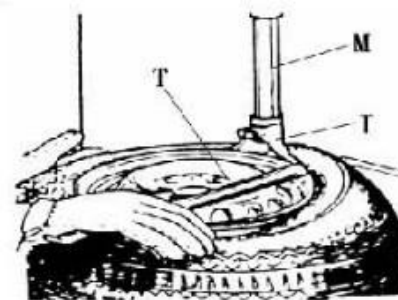

Fig 6
Lower the Vertical Arm (M) until the Mounting head/demounting head (I) rests next to the edge of the rim, flip pneumatic locking button (K) to lock the Vertical Arm (M) and Horizontal arm in position, and control the distance from Mounting head/demounting head to the edge of wheel rim about 2-3 mm. Insert the Lifting Lever (T) between the tyre bead and the front section of the mounting head/demounting head (I), and move the tyre above the mounting head/demounting head as shown as **Fig 6**.